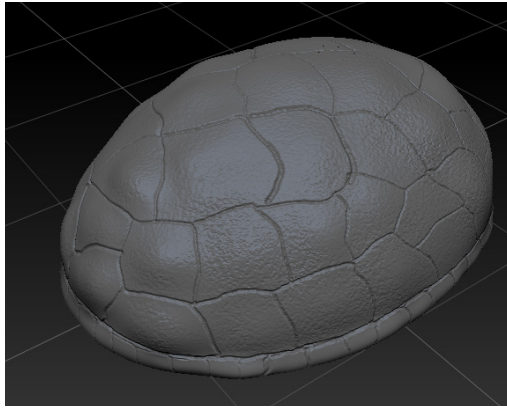

Figure 3-66 The final output
6. Press and hold the left mouse button and drag the cursor on the surface of the *turtle shell*; the final output is created, as shown in Figure 3-66.